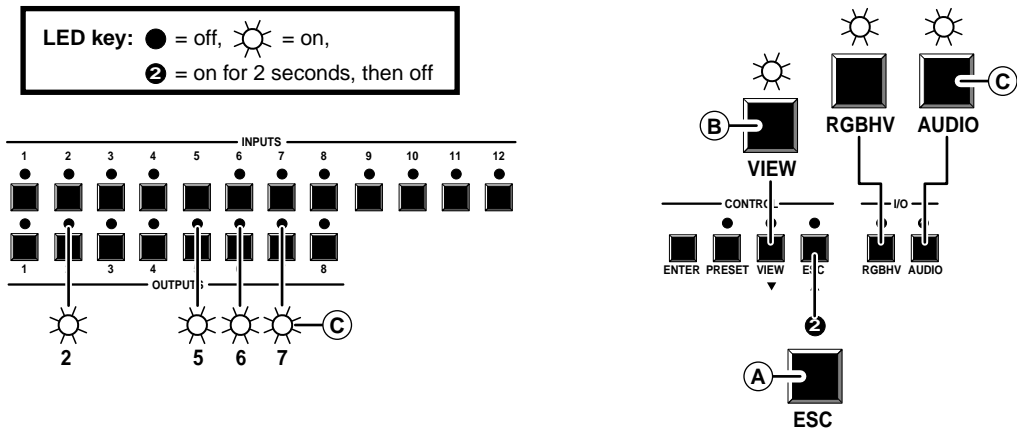
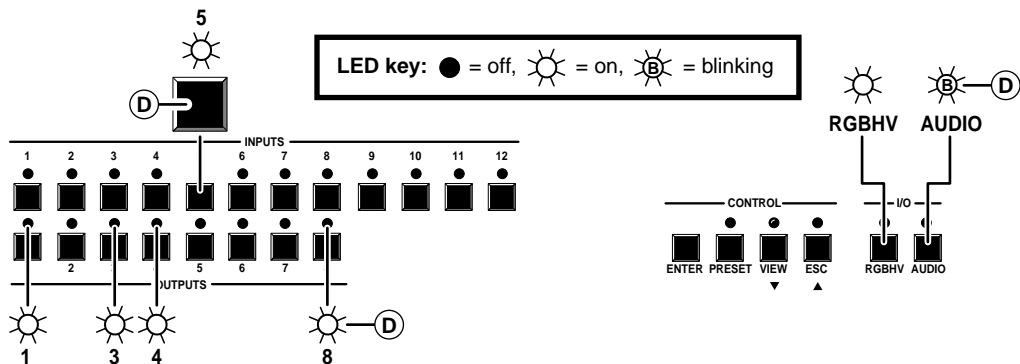
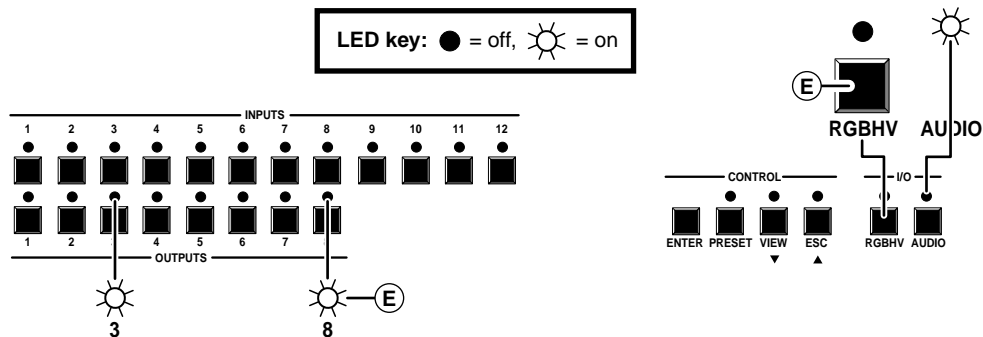

Figure 3-8 — Example 4: Viewing the current configuration, no input selected
Figure 3-9 — Example 4d: Viewing the current configuration, video and audio
Figure 3-10 — Example 4e: Viewing the current configuration, audio-only
See figure 3-8, figure 3-9, figure 3-10 and figure 3-10 and the following steps for an example of viewing the video and audio, audio-only, and video-only ties in the current configuration.
- (A) Press and release the Esc button. The Esc LED turns on for approximately 2 seconds and turns off.
- (B) Press and release the View button to enter view-only mode. The View LED lights.
- (C) If necessary to select both video and audio for viewing, press and release the RGBHV and Audio buttons until the RGBHV LED and Audio LED light. With no input LED selected, all output LEDs that have no established ties light.
- (D) Press and release the input 5 button (figure 3-9). The input 5 LED lights.
- (E) Press and release the RGBHV button to toggle the Video LED off (figure 3-10). If audio is broken away, the Audio LED stops blinking and lights.